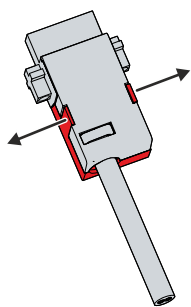

Fig. 19: CP29xx_Disassembly the strain relief housing
1. Use your fingers to bend the latching lugs on the lower part slightly outwards (see Fig. 19).